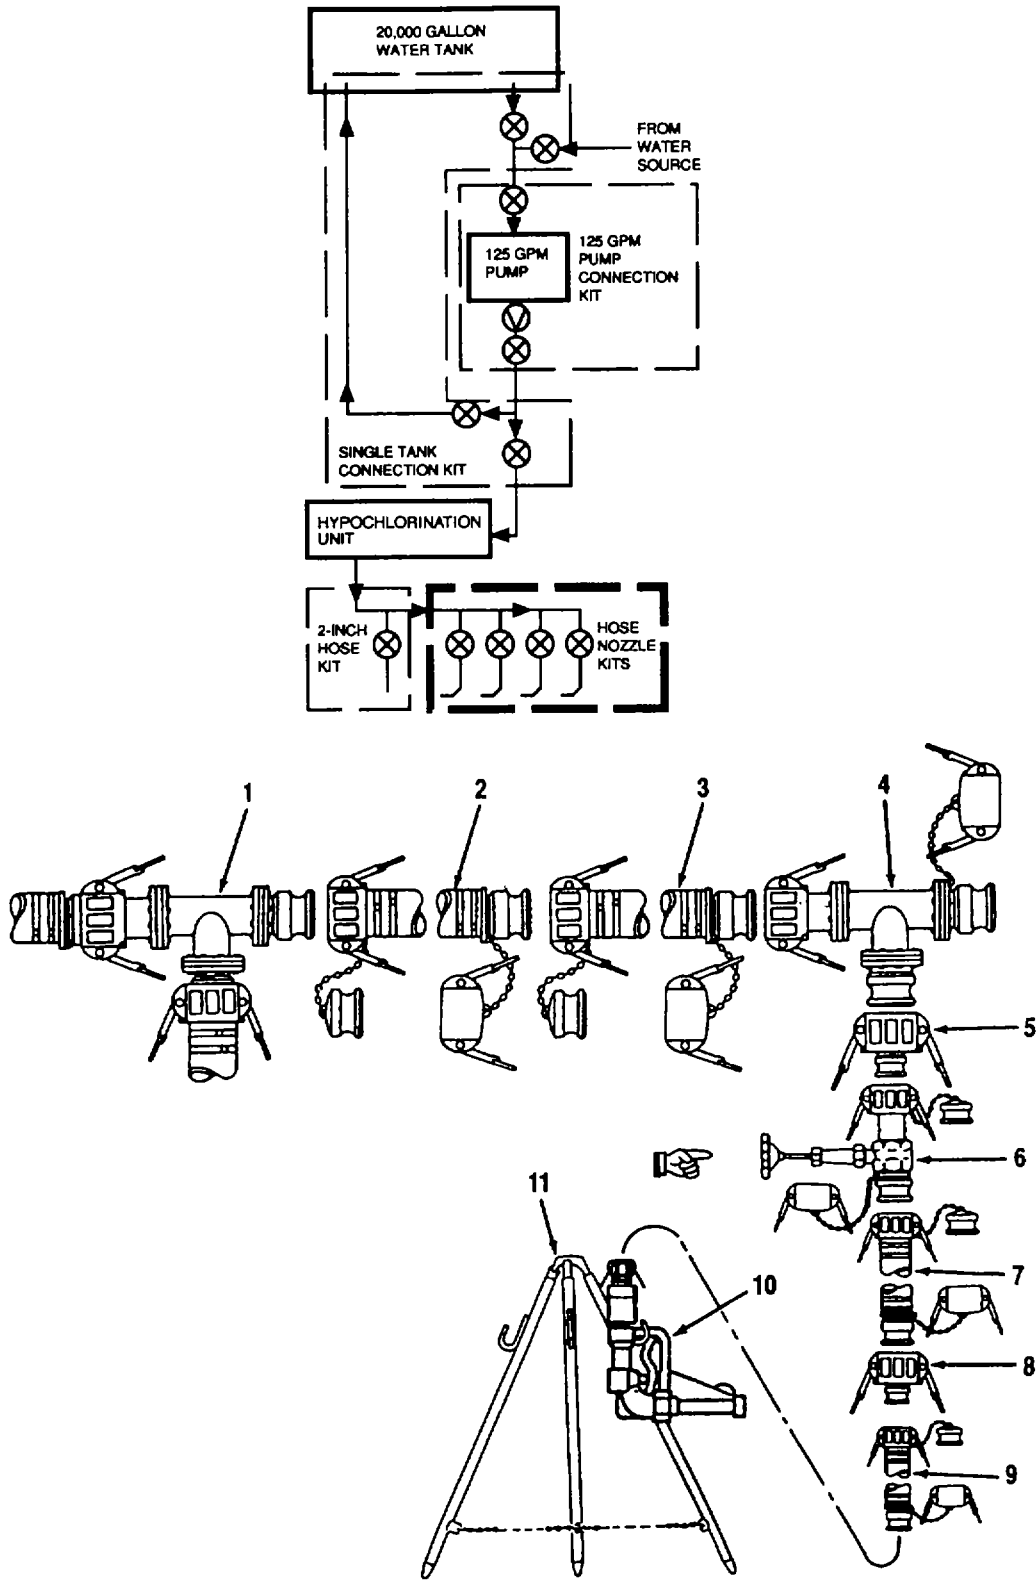

Figure 2-8. Hose Nozzle Connection Kit Assembly
- h. Assemble Hose Nozzle Connection Kits. (Refer to Figure 2-8).